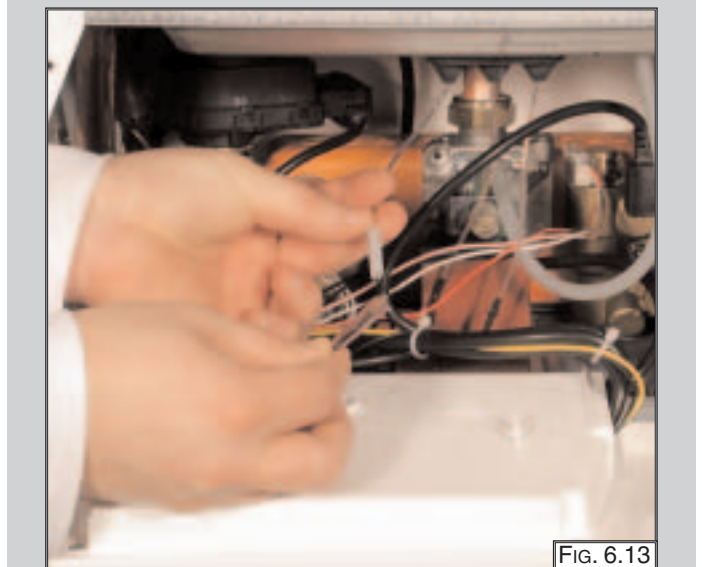

FIG. 6.14
3. Remove screw "H" (FIG. 6.14);